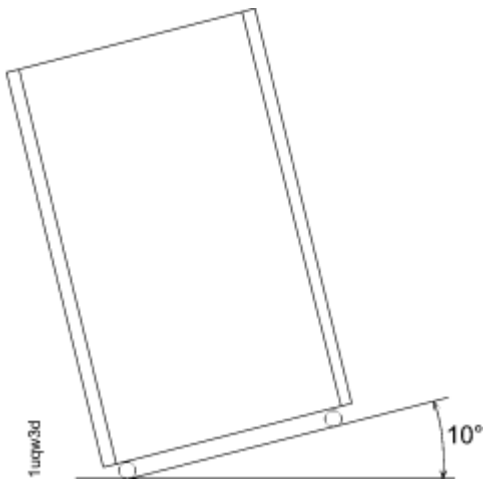

Figure 6. Maximum tilt for a packed frame is 10°
3. To compensate for the weight of the storage system shipment, ensure that the loading ramp at your site does not exceed an angle of 10°. (See Figure 6 on page 81.)